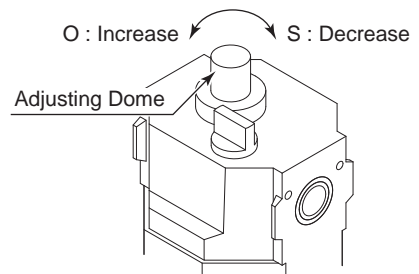

Fig. 5
#### (3) Adjustment of Oil Drip Rate (Fig. 5)
- ① Set the air pressure to the air motors recommended maximum air pressure.
- ② Adjust the Oil Drip Rate to the recommended volume which is 1 to 3 drops / min. (If using the Air Turbine Spindle, adjust the Oil Drip Rate to the recommended volume which is 1 drops / min.)